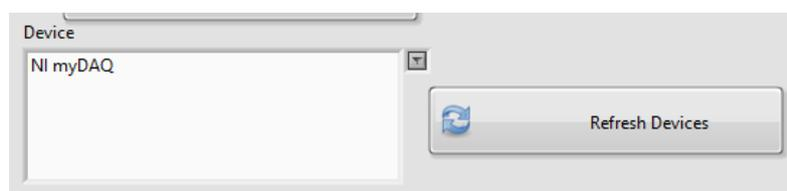

Figure 5.5: Selection of acquisition card
4. Once you have made all necessary connections of elements and devices and after you turn on devices, log on to the CORELA platform. In the selection window of external device "Device window" select NI myDAQ card (Figure 5.5). If no devices are displayed in the window, press the control button "Refresh Devices".